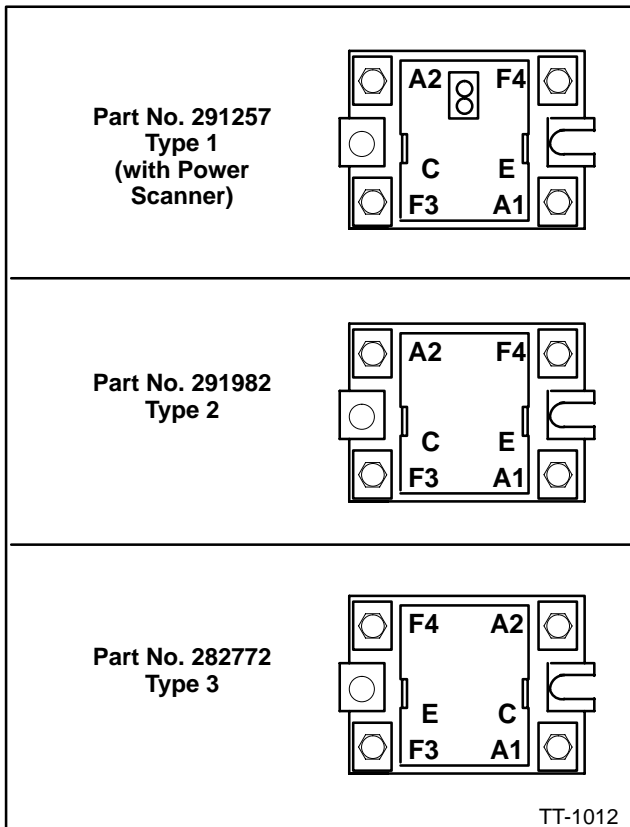

Figure 11. FR™ Activator Variations
Terminals E and C were reversed on earlier versions of the FR™ activator. See Figure 11.
Earlier versions of the FR™ activator had terminals F4 and A2 reversed. See Figure 11. Connect leads to terminal with the same terminal designation regardless of the terminal position.
9. Before removing FR™ activator compare terminals with new SCR assembly. The leads may not reach SCR assembly terminals if mounted incorrectly. See Figure 11 for variations of the FR™ activator.